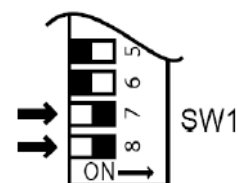

Fig. 5
13. Set the Rinnai Infinity to **'Forced High'** combustion by setting No.7 and No.8 dipswitches to 'ON' (Fig.5). Ensure maximum water flow.